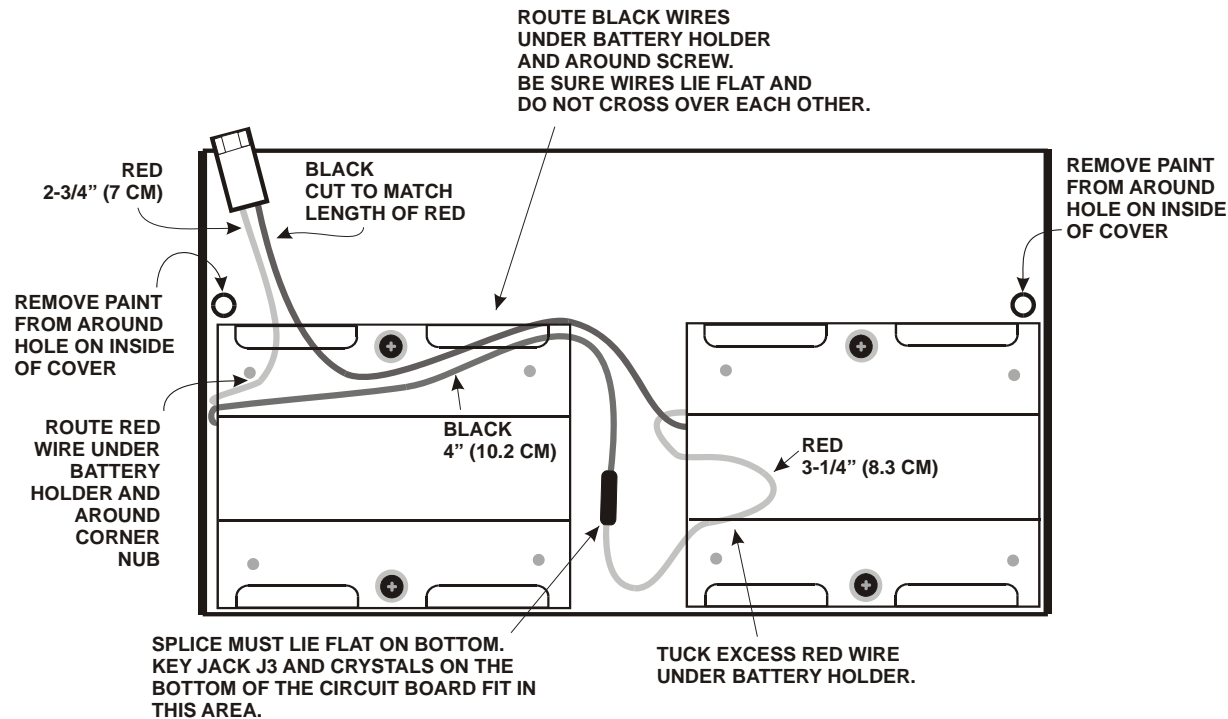

Figure 25. Wiring the Battery Holders.
In the following steps you will install and wire the battery holders. First, study the wiring drawing in Figure 25. The two holders are wired in series. The wires must run against the bottom cover and under the holders as shown to avoid interfering with other components when the KX1 case is closed.
Begin by removing the paint from around the holes on the inside of the bottom cover where it will attach to the stand-offs on the circuit board. There are two holes; one at each end of the cover (see Figure 25).
Mount this holder in the right hand position as shown in Figure 25 using two 2-56 screws. **Do NOT over-tighten the screws, as this may strip the threads.** Be sure the wires exit at the left end as shown.
Position the second holder on the bottom cover oriented as shown and start a screw in the hole nearest the edge of the cover (closest to the bottom in Figure 25). Do not tighten this screw yet. Leave it loose enough so that the other side of the holder can be lifted up off of the cover far enough to slip wires underneath.
Slip the three wires shown in Figure 25 under the edge of the holder as follows:
- ❑ Be sure that you removed the paint from around the bottom cover holes (see Figure 25).